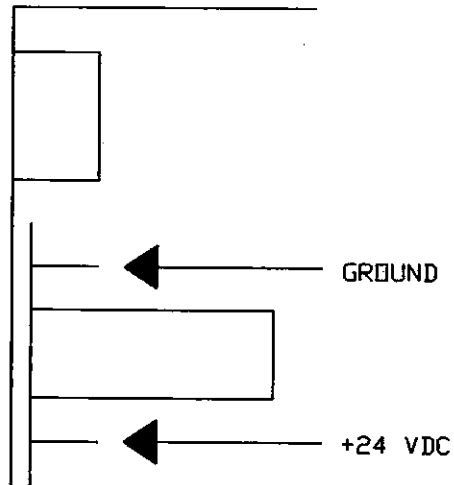

Figure 2
2.9 Clean the area the test point label, parts kit item #26, will be applied to and attach the label as per Figure 2.
- 2.13 Use Table 1 of Figure 2 for correct tip jack color location. Mount the tip jacks to the rear panel of the TCC using its associated star washer and bolt.
2.21 Using Table 1 of Figure 2 for correct connection, route the Orange wire to power supply 2 (PS2).
2.26 Perform a continuity test by using an ohmmeter to measure between the test point jacks and power supply edge connector pins. Refer to Table 1 of Figure 2.
2.28 Apply AC power to TCC on the work bench. Using a multimeter, verify the correct voltages correspond to each test point as indicated in Table 2 of Figure 2. Refer to the AN/FPN-60(V) Series Transmitter Control Set Technical Manual for power supply adjustments.
2.31 Reconnect AC power. Using both a digital multimeter and oscilloscope check the power supply voltages and ripple. Refer to Table 2 of Figure 2 for proper voltage levels.